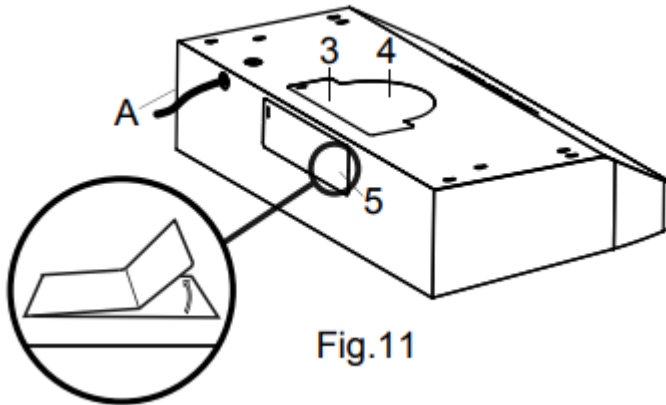

Fig.11
- Choose the venting hole to remove for your installation type. Use the top holes (3 & 4) for a top venting installation and the back hole (5) for a back venting installation .
- Carefully remove the cover (3, 4 or 5) of the appropriate venting hole using a flat head screwdriver or needle nose pliers (refer Fig. 11). Be careful not to leave any debris inside the range hood (A).